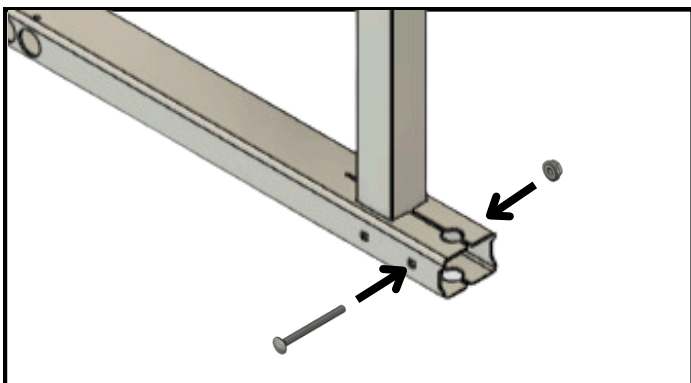

Figure 3
If you are NOT installing the IR-15/IR-30/IR-45/IR-35A with steel concrete forming stakes or IR AnchorSpikes, the remaining (2) M8-1.25 x 90mm Carriage Bolts can be used to clamp the ends of the Base Tube in this step (See Figure 3).